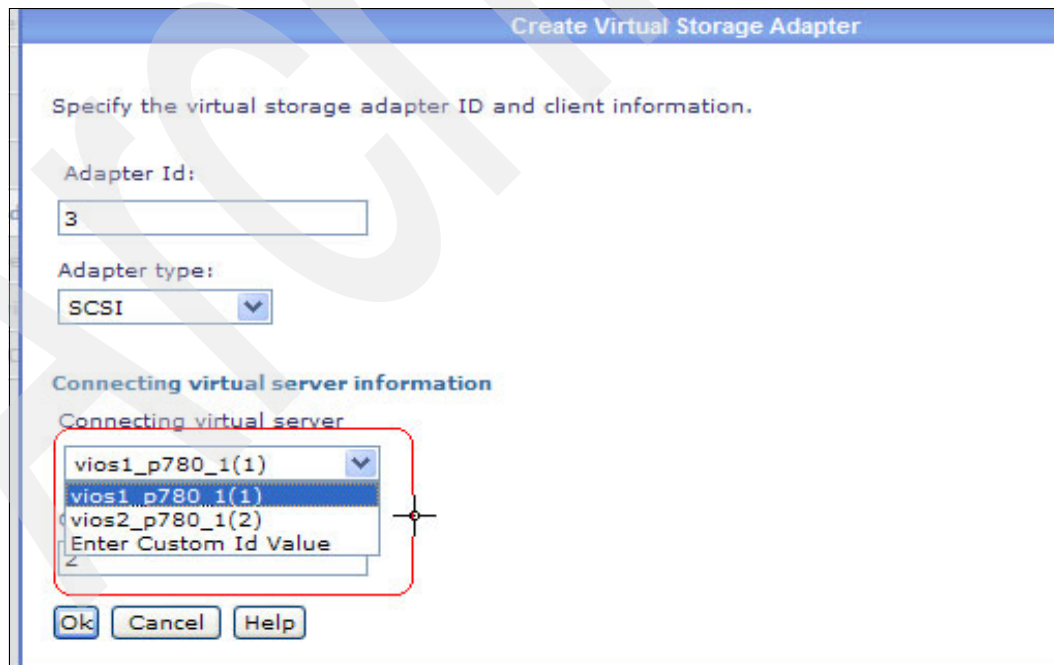

Figure 2-38 Adding a virtual adapter dynamically
3. Now, we add a virtual adapter. The SDMC differentiates between the physical I/O adapters and the virtual adapters. The storage adapters refer to PowerVM virtual adapters. If you are adding physical adapters, you select the physical I/O. In this case, we use virtual devices. Select **Storage Adapters** → **Add**. Figure 2-38 shows adding a virtual adapter.
Virtual I/O server connection: Figure 2-38 on page 60 shows the connecting device information. For a VIO client, you select the virtual I/O server to which this device connects. If this device was created for a virtual I/O server, the heading of the list box is “Connecting virtual server”, but the drop-down list contains other LPARs and not virtual I/O servers.